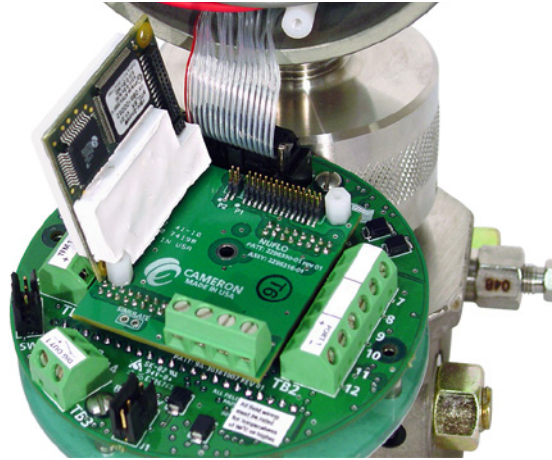

Figure C.10—Removal of white potted fieldbus module
8. Remove the two screws that attach the white potted fieldbus module to the fieldbus interface board, and remove the module from the interface board (Figure C.10, page C-20).